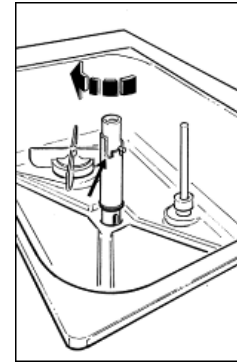

Fig. 63
- Position the air regulation pipe and adjust it, lifting and rotating the upper movable part in a clockwise direction, to the closed position on the lower notch indicated by the arrow (Fig. 63).